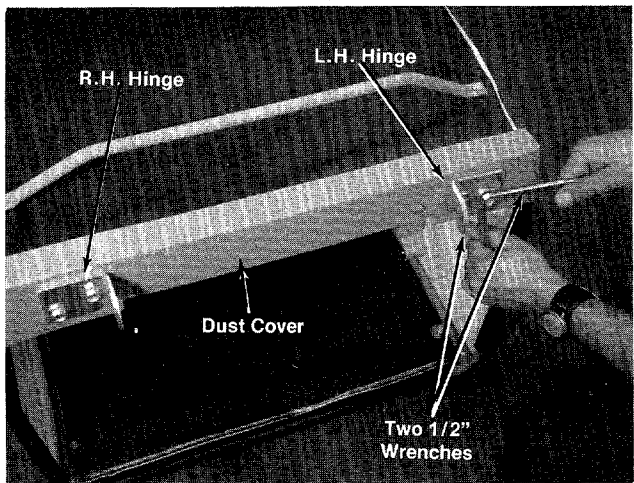

FIGURE 13.
7. Place dust cover in position on top front of catcher. Place right and left hand hinges in position and secure with hex sems bolts (E), lockwashers (F) and hex nuts (G) provided. See figure 13.
Hinges (A & B) are stamped R and L. See figure 13. Two 1/2" wrenches are required. Do not tighten bolts and nut at this time.